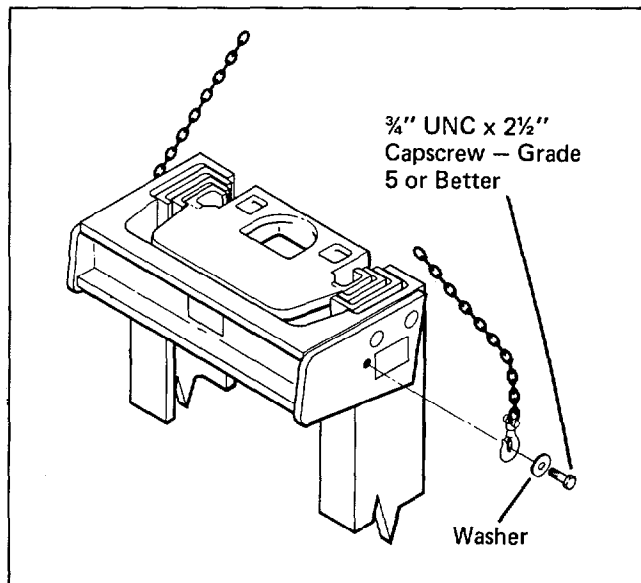

Figure 5-1 Lifting Procedure
1. Thread a 3/4" UNC x 2-1/2" capscrew (grade 5 or better) with a large flatwasher into the hole on each side of the mast as shown in figure 5-1.